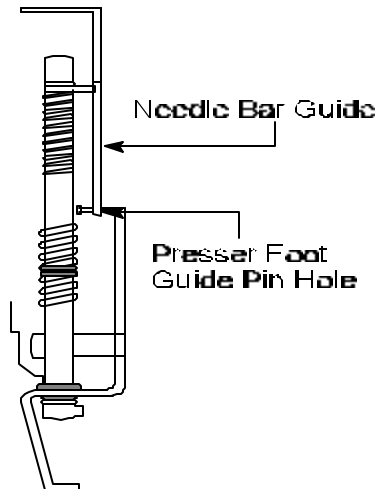

Figure 9
19. **Press** Needle Bar and Presser Foot together making sure Needle Bar guide pin lines up with Presser Foot guide pin hole. See *Figure 9*.